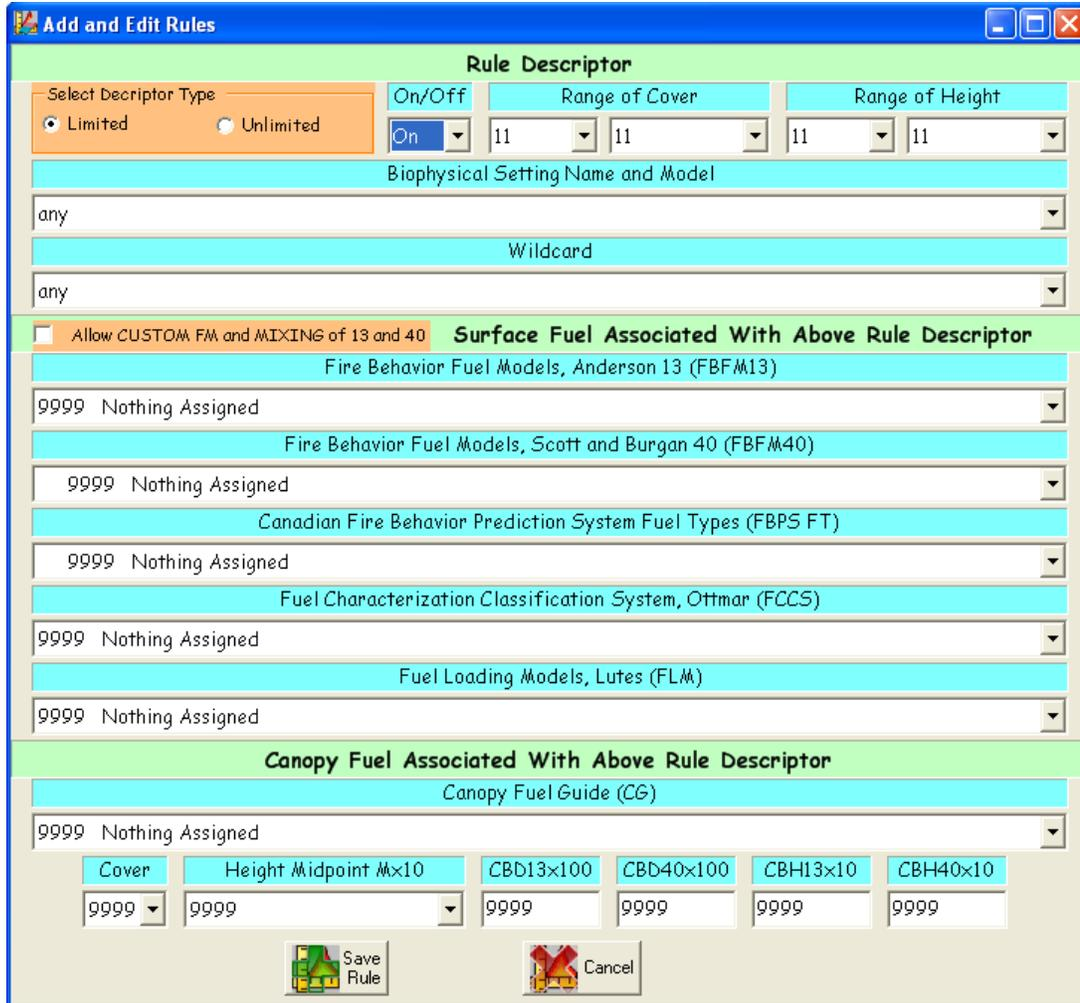

Figure 6-15. Add and Edit Rules dialog box.
- After clicking **Add Rule** (or **Edit Rule**), the following **Add and Edit Rules** dialog box will open (fig. 6-15).
- Select a **Descriptor Type** using the associated radio buttons at the upper left corner of the dialog box (fig. 6-15).
- Toggle the rule descriptor **On** or **Off** using the drop-down menu (fig. 6-15).